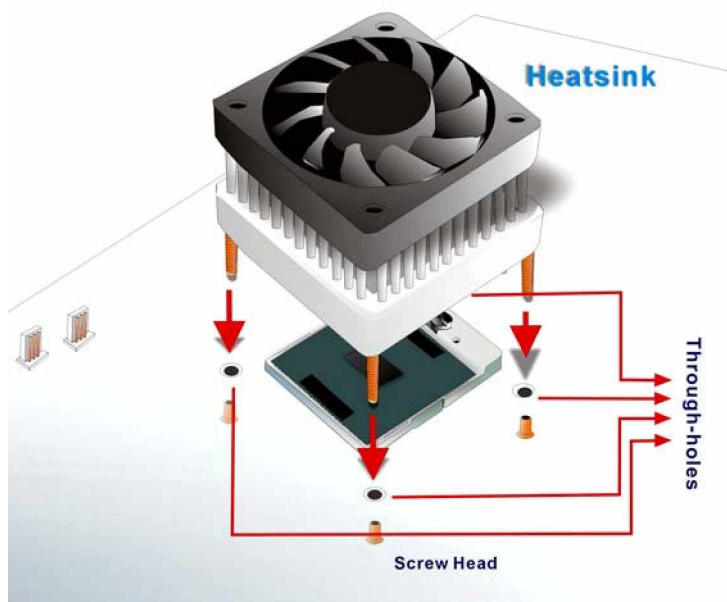

Figure 4-4: Securing the Cooling Kit
- Step 3: Secure the cooling kit.** From the solder side of the PCB, align the provided nut caps to the heatsink screw threads that protrude through the PCB holes. Without over tightening the nut caps, insert them onto the protruding screw threads to secure the cooling kit to the PCB board. (See **Figure 4-4**)